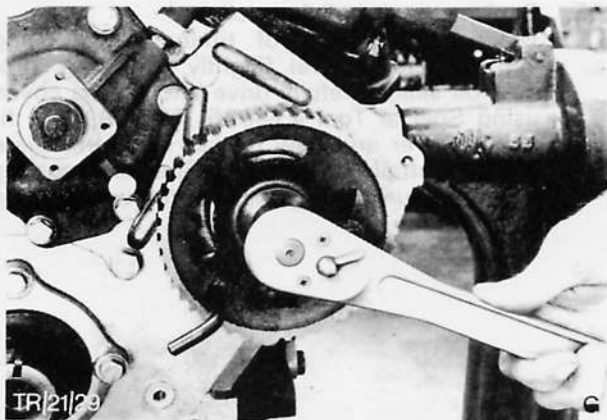

Fig. 82. Lock camshaft gear using Special Tool 21-016 and secure
59. Lock camshaft gear using Special Tool 21-016 and torque as specified in Technical Data, Fig. 82.